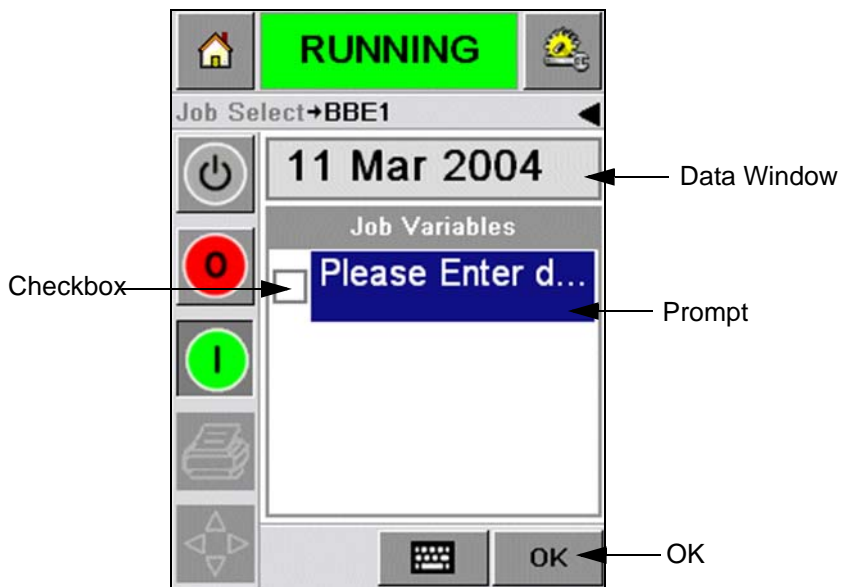

Figure 5-7: Job Variables
The check box at the side of variable fields indicates the fields that are entered and fields that are not entered (Figure 5-7 on page 5-6).
To select the Job variable you require to change, touch the related prompt. This variable gets highlighted and display the default data in the data window (Figure 5-7 on page 5-6).
The Figure 5-7 shows the Job Variables for the job **BBE1** and there is a DATE field variable only (for use as a Best Before End Date).
- 1 If the default date displayed in the data window (11 March 2004) is correct, touch the **OK** icon and this date is printed (Figure 5-7).